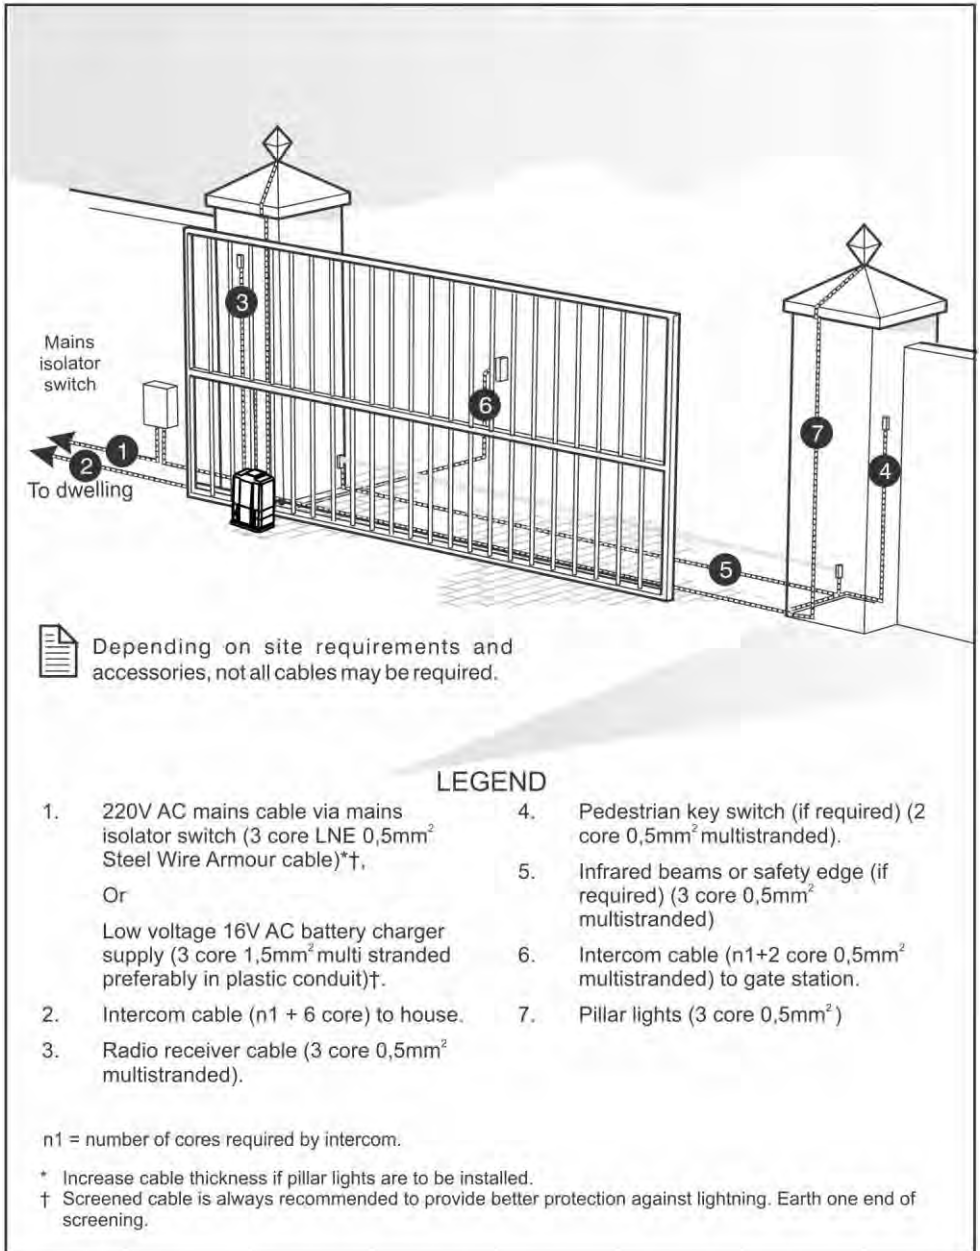
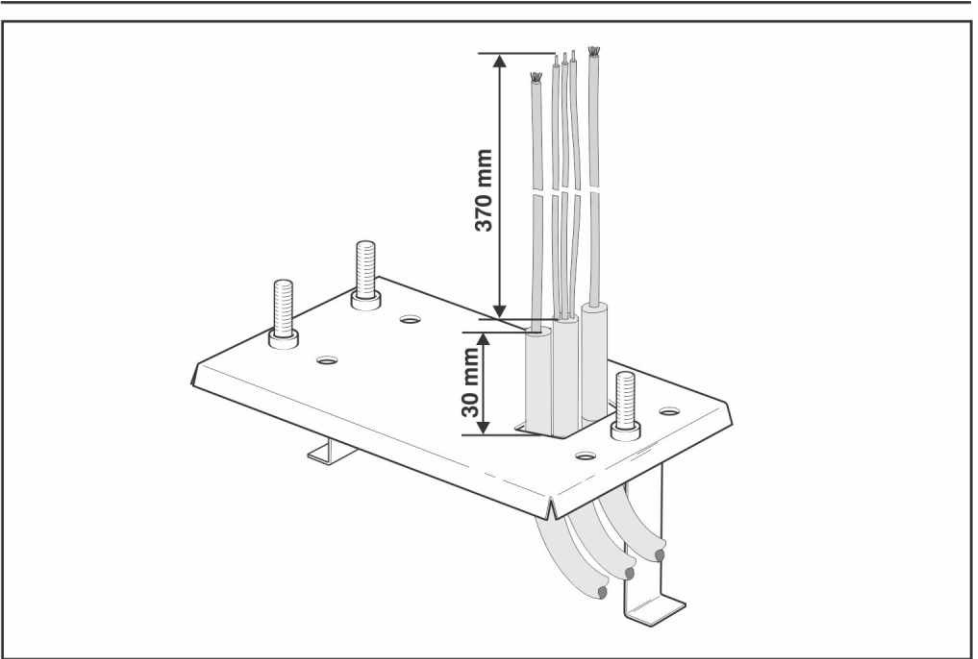

Figure 7 Cabling Requirements
Figure 11 Route Cables Through Baseplate
- Route cables as determined in the cabling plan (Figure 7), making sure that all cables protrude at least 400mm above the baseplate once installed, as in Figure 11.